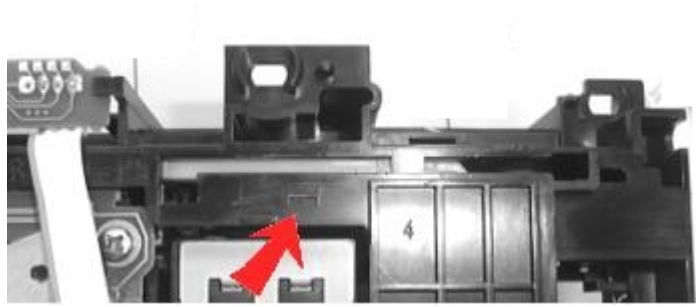

Figure 8
- 1) Place the mounting pin on the traverse chassis (361) opposite the tray motor in the slot first, and then insert the pin closest to the tray motor. This will require some manipulation of the frame.
- 2) Pull the black stopper down and push the bottom of the slide lever (318) toward from the traverse deck to release it.
- 3) Push the slide lever on the bottom of the mechanism away from the traverse deck until it aligns with the "H" Mark stamped on the frame (Figure 8)..